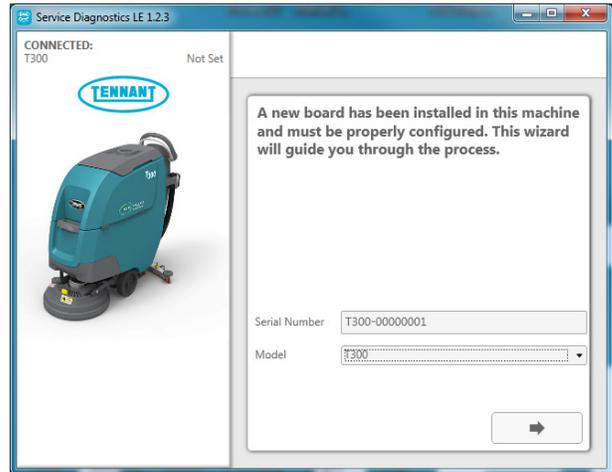

Fig. 8
6. The following screen will appear when the application software is connected to machine (Figure 8). Enter the machine serial number (ex. T300e- 12345678). Select the appropriate model from the drop-down menu. Press the arrow button to advance to next screen.